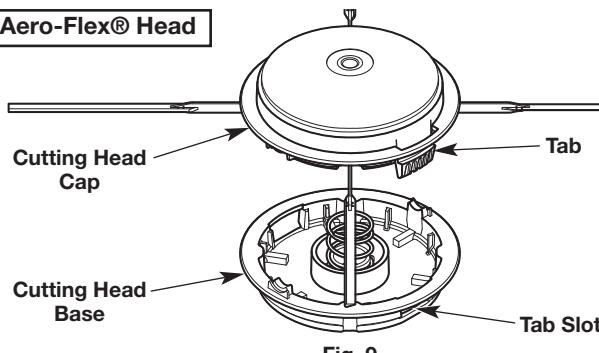

Fig. 9
3. Align the tabs on the cutting head cap with the tab slots on the cutting head base (Fig. 9). Push the cutting head cap onto the cutting head base until both tabs snap into place.
2. Disconnect the cutting head cap from the cutting head base: Firmly press a tab on the cutting head cap (Fig. 9). Use your thumb. If necessary, use a flat-head screwdriver:
- c. While holding the screwdriver in place, gently twist the screwdriver to unlock the tab from the tab slot (Fig. 9).